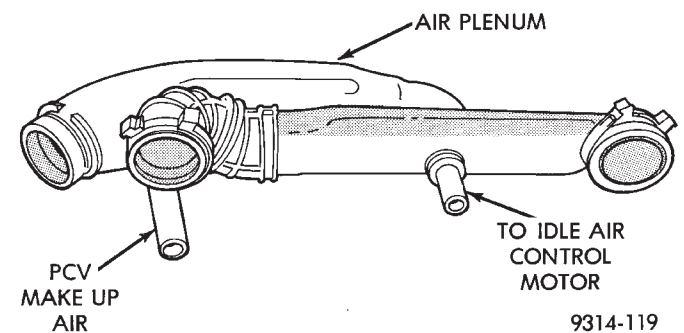
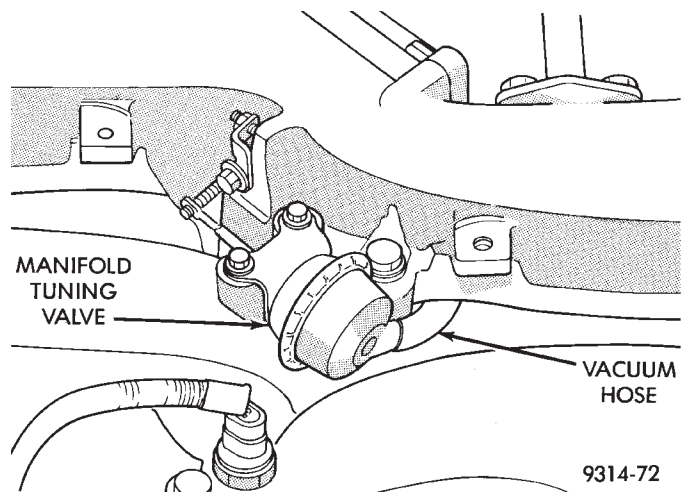

Fig. 42 Air Plenum—3.5L Engine
Fig. 43 Manifold Tuning Valve
(8) On 3.5L engines, ensure the air plenum hoses are attached to the idle air control motor and the make up air nipple for the PCV system (Fig. 42). Also ensure the PCV hose is connected to the PCV valve, not the idle air control motor.
(9) Ensure purge hose is connected to throttle body (on 3.5L engines each throttle body has a purge hose).
(10) On 3.5L engines, ensure the vacuum hose is connected to the manifold tuning valve and the vacuum harness (Fig. 43).